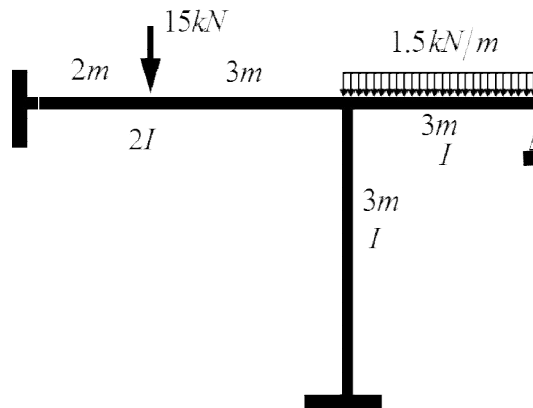

Fig. 2
- 3 Analyse the 2D frame shown in Fig. 2, using slope deflection method. Draw BMD.
- 4 Analyse the 2D frame shown in Fig. 2, using moment distribution method. Draw BMD. (15)
- 5 a) Derive expressions for stiffness at the near-end and carry over factor for a beam (8)